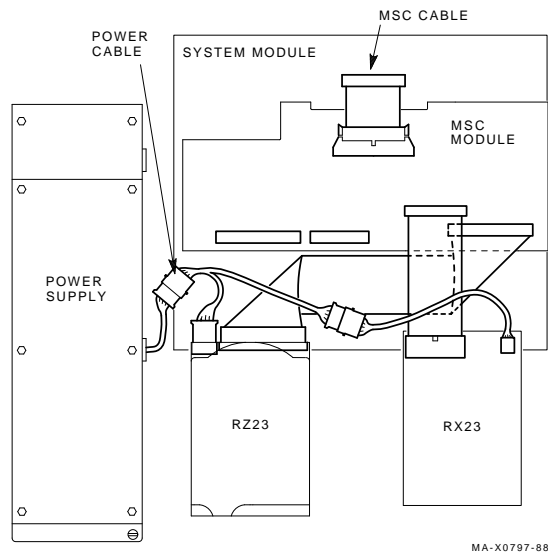
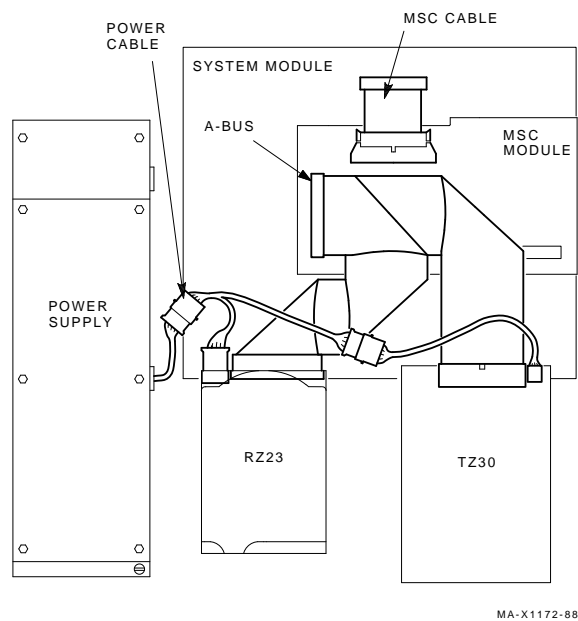

Figure 6-2 Disconnecting the Drive Mounting Plate (ST506/SCSI)
Figure 6-3 Disconnecting the Drive Mounting Plate (SCSI/SCSI)
1. Disconnect the power cable from the power supply and disconnect the MSC cable (Figure 6-2 for a ST506/SCSI MSC module or Figure 6-3 for a SCSI/SCSI MSC module).